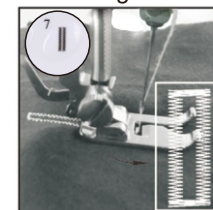

Fig.5
- (6) Choose the stitch pattern #7, then turn on switch and sew till buttonhole is fully sewed. (Fig.5)